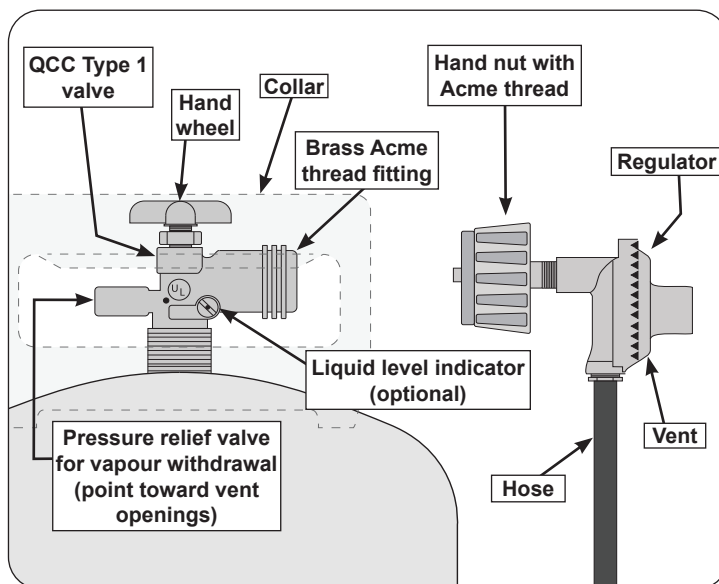

Fig. 7-1 Type I Acme thread coupler
- The cylinder used must include a collar to protect the cylinder valve. The cylinder supply system must be arranged for vapour withdrawal. See Fig. 7-1.
- When used with a cylinder, the gas supply system must be used with a pressure regulator. The pressure regulator and hose assembly (Fig. 7-1) supplied with this outdoor gas appliance (**L.P. models only**) must be used. Original and replacement pressure regulator and hose assemblies must be those specified by the manufacturer for connection with a cylinder connecting device identified as Type I by the ANSI Z 21.58/CGA 1.6 and must comply with UL 144 as a part of the self-contained LP gas supply system (see PARTS LIST for ordering information).
**To disconnect:** Turn the hand nut counterclockwise until detached (Fig. 7-1).